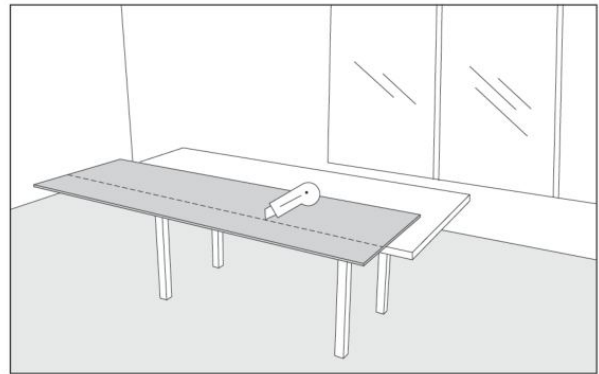

Fig.14
- Fabricate wall panel to specified dimensions using a utility knife or a circular saw.(Fig.14)